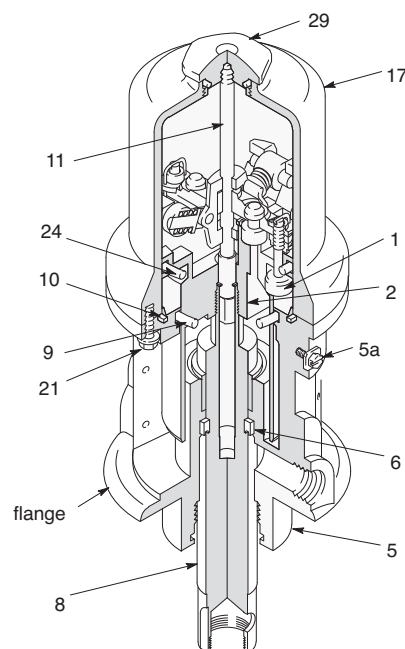

FIG. 3
Refer to FIG. 3 and FIG. 4 for the following instructions.
4. Use a strap wrench on the fluid cylinder (105) to screw it out of the air motor base (5).
5. Pull the displacement rod (8) down as far as it will go. (FIG. 3)
6. Using wrenches on the flats of the displacement rod (8) and on the flats of the fluid piston (110), unscrew the fluid piston from the displacement rod. Remove the ball (111) from the end of the displacement rod, and remove the packing o-ring (104) from the fluid piston.
8. Unscrew the cylinder cap nut (29) from the top of the air motor cylinder (17).
9. Pull up on the cylinder cap nut (29) to expose the trip rod, grasp the trip rod with padded pliers, and unscrew the cylinder cap nut from the trip rod.